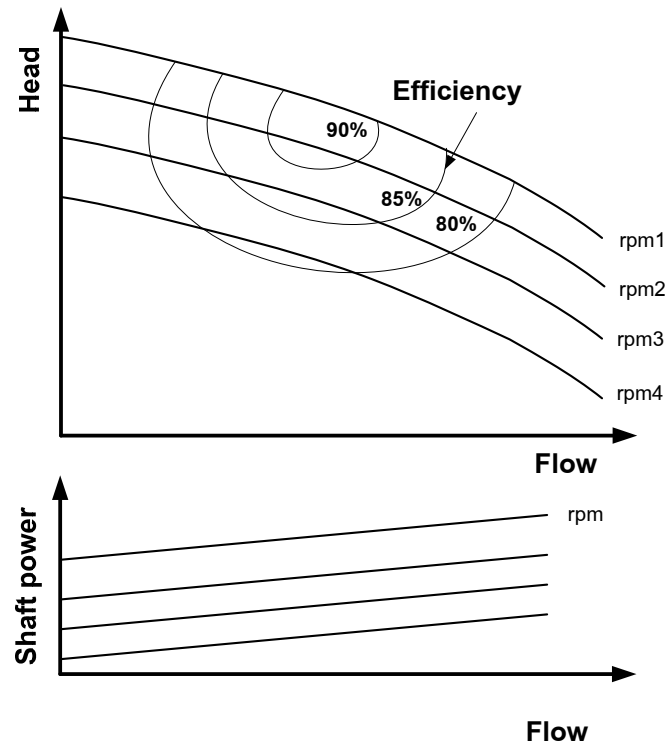

Figure 2 H-Q curve and input power
- a. Plot H-Q curve and torque in various speeds, as shown in Figure 2